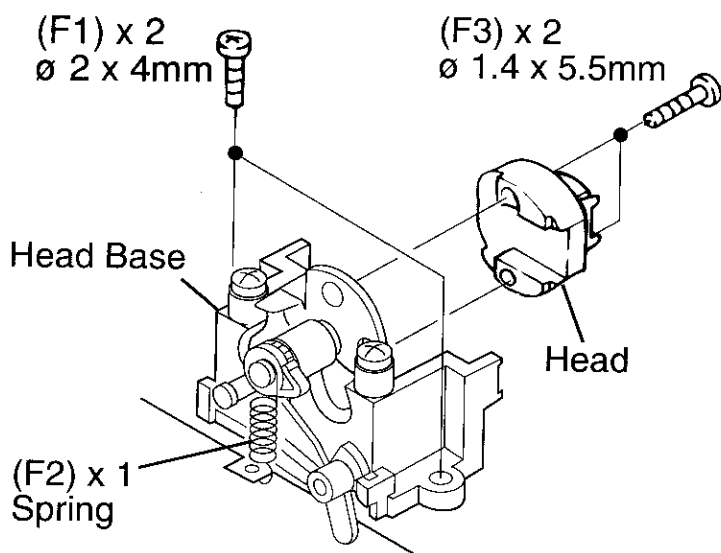

Figure 11-4
**How to remove the record/playback/erase head (See Fig. 11-4, 5.)**